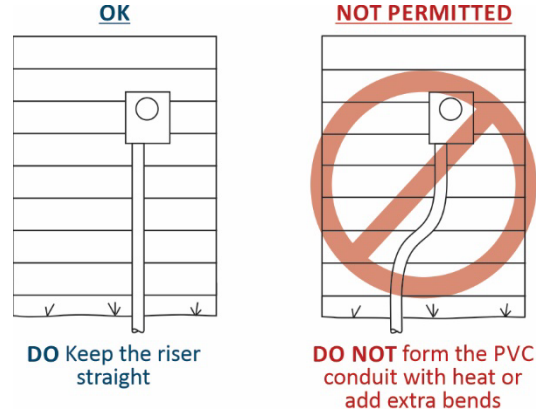

Figure 1 Conduit Riser
**DO NOT heat the conduit** in any way to shape it or to form bends anywhere in the run or riser, see Figure 1.